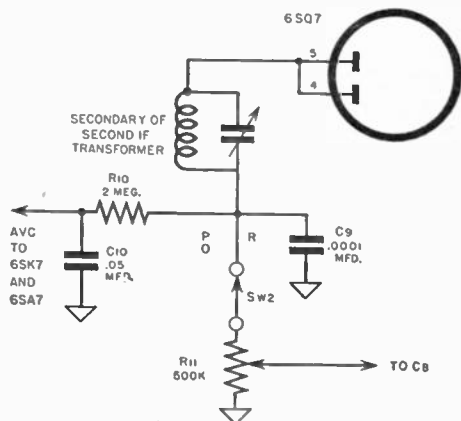
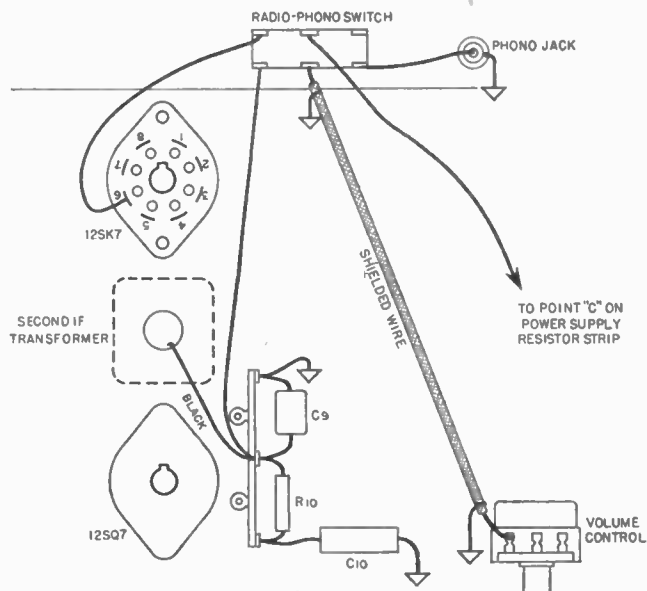
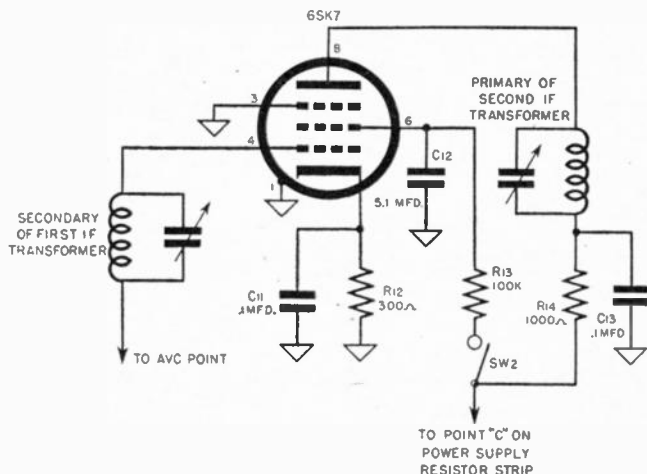

Fig. 2-36. The detector-AVC circuit.
Fig. 2-37. Phono portion of the detector-AVC circuit.
Fig. 2-38. The full i.f. amplifier circuit.
Figure 2-36. Figure 2-37 is a detailed drawing of the phonograph portion. Notice that the wire from the switch to the volume control must be shielded. Use regular shielded wire or, if this is not available, cover a length of stranded, well-insulated wire with woven shielding. Be sure to ground both ends of the shield to chassis.
f) I.F. Amplifier Circuit. This circuit includes one set of contacts on the radio-phono switch. The full i.f. amplifier circuit is shown in Figure 2-38. For further details on the switch wiring, refer back to Figure 2-37.